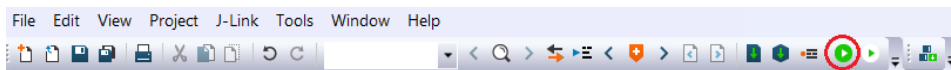
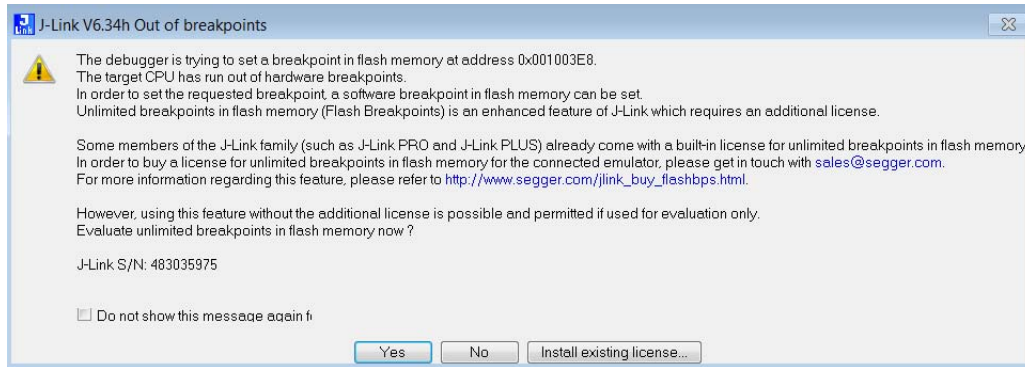

Figure 36. Start/Stop Debug Session Icon
Figure 37. J-link “Out of breakpoints” pop-up dialog
- Select **Project > Download and Debug**, or click the icon shown in Figure 36, then accept the J-Link pop-up dialog in order to use the flash breakpoints (as shown in Figure 37).